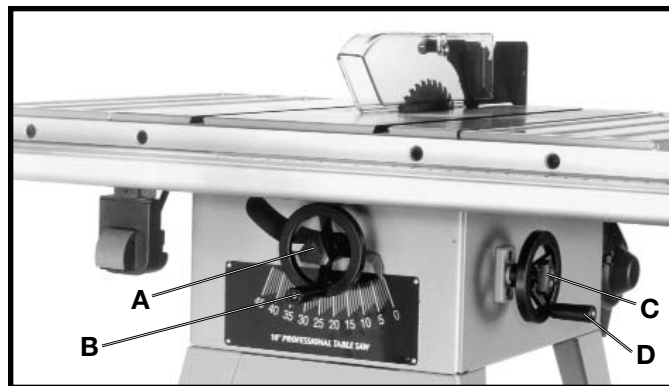

Fig. 58
To raise the saw blade, loosen lock knob (A) Fig. 58, and turn the blade raising handwheel (B) clockwise. When the blade is at the desired height, tighten lock knob (A).
To lower the blade, loosen lock knob (A) Fig. 58, and turn the handwheel (B) counterclockwise. **NOTE:** One full turn of the handwheel will change blade height approximately 1/4".
To tilt the saw blade for bevel cutting, loosen lock knob (C) Fig. 58, and turn the tilting handwheel (D). When the desired blade angle is obtained, tighten lock knob (C).